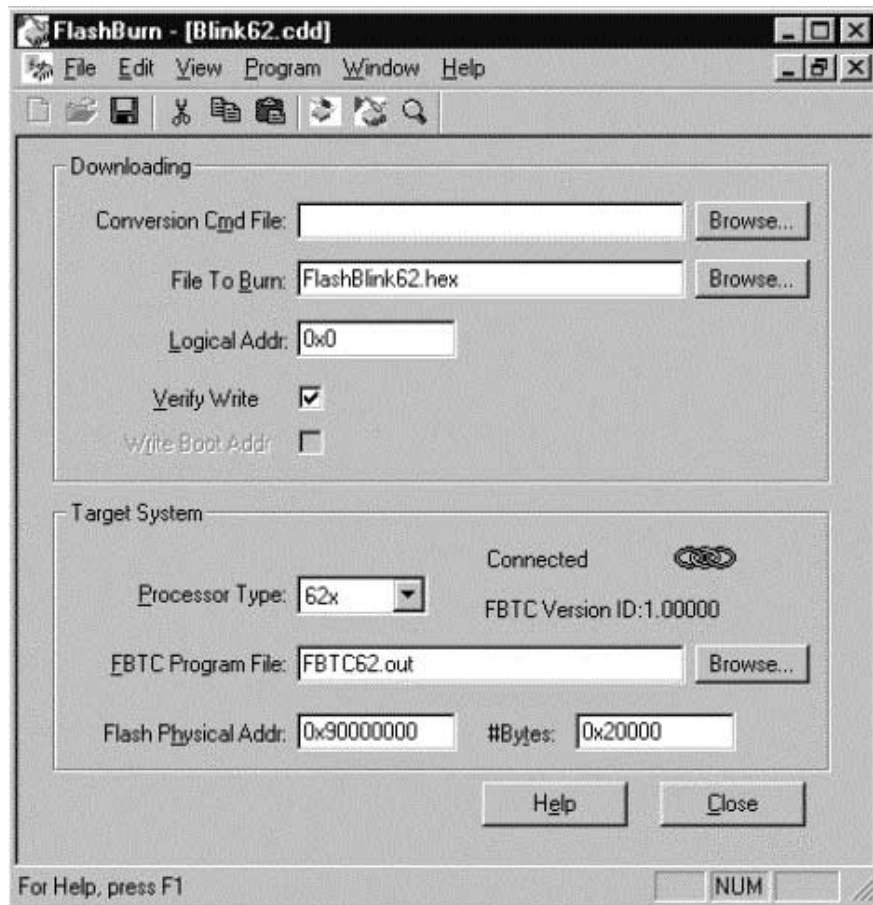

Figure 1. FlashBurn Document
- If the FBTC program is provided (see the **FBTC Program File** field in Figure 1), then the program is downloaded to the the target system and started.
Only one document may be open at any time. Figure 1 below shows the user's view of the `Blink62.cdd` FlashBurn document. This document is designed for burning an example program into the flash memory of a 6211 DSK, starting at the beginning of the memory.
The lower field contains items that pertain to the target system's hardware. In this example, the processor type is 62x because the document was prepared for a 6211 DSK board. The physical address and size of the on-board flash memory are as shown in Figure 1.